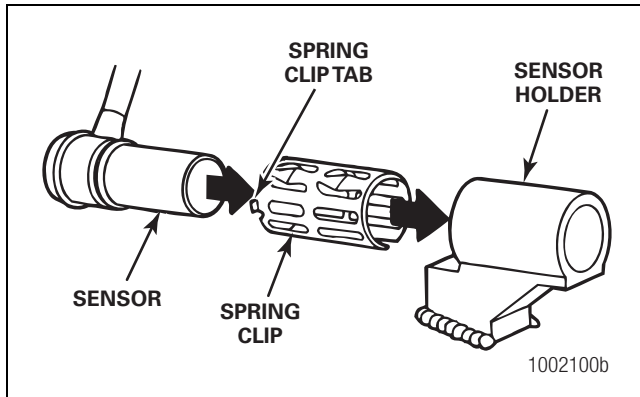

Figure 6.1
2. Push the spring clip into the sensor holder from the inboard side, until the spring clip tabs are against the sensor holder. Push the sensor into the spring clip as far as possible. Figure 6.1.